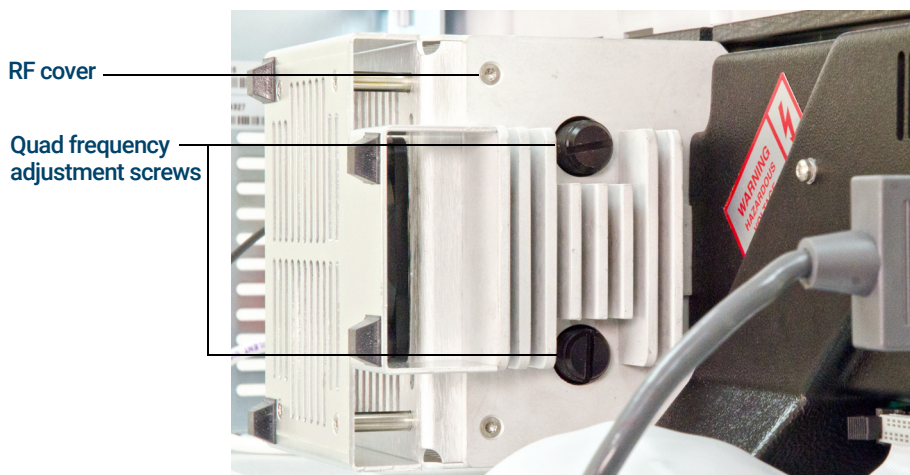

Figure 21. Adjusting the quad frequency
- 6 Slowly turn the quad frequency adjustment screws to minimize the voltage displayed. (See **Figure 21** on page 135.)